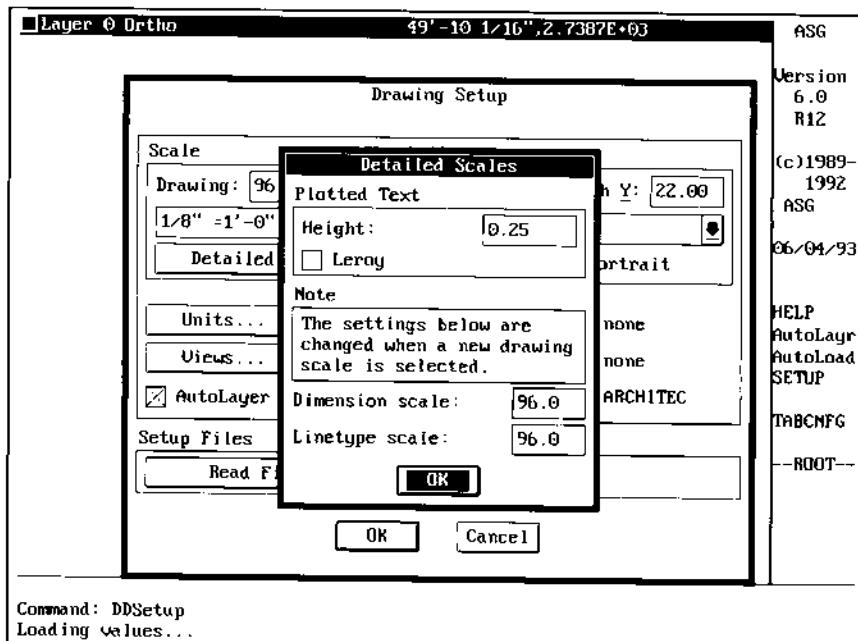

Figure 27.
2. Select Setup under the File pull-down menu then choose Setup... to open the Drawing Setup dialog box. Pick the Detailed... pick box to open the Detailed Scales subdialog box and enter 0.25 in the Height: edit box as shown in Figure 27. Pick OK to close each dialog box.